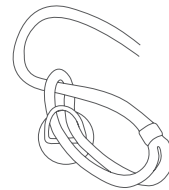

Fig 16 -
2. Pass the other end of the Dock Line through the spliced loop (Fig 16).